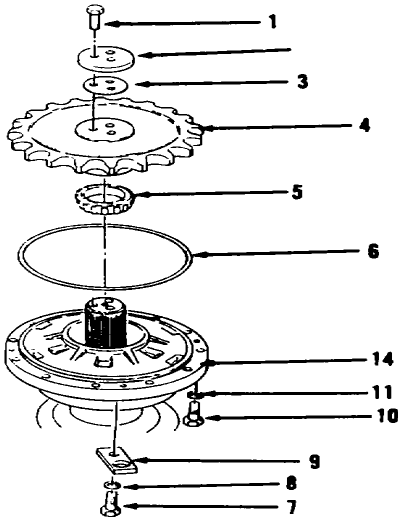
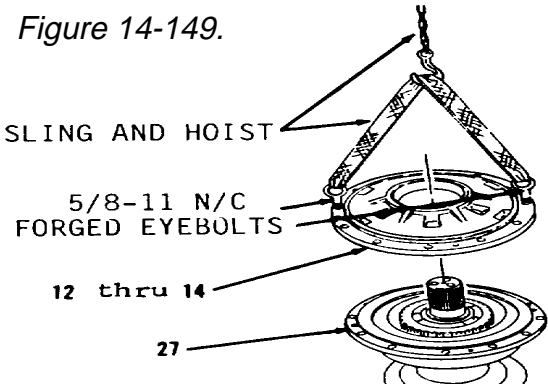

Figure 14-149.
Figure 14-150.
1. Remove three bolts (1), retainer (2), shim(s) (3) and sprocket (4), Figure 14-149).
2. Remove cone (5) and seal (6). Discard seal (6).
3. Remove bolt (7), lockwasher (8), plate (9), three bolts (10) and lockwashers (11) from cover (14).
4. Install two 5/8-IINC forged eyebolts in items 12 thru 14 as an assembly (Figure 14-150).